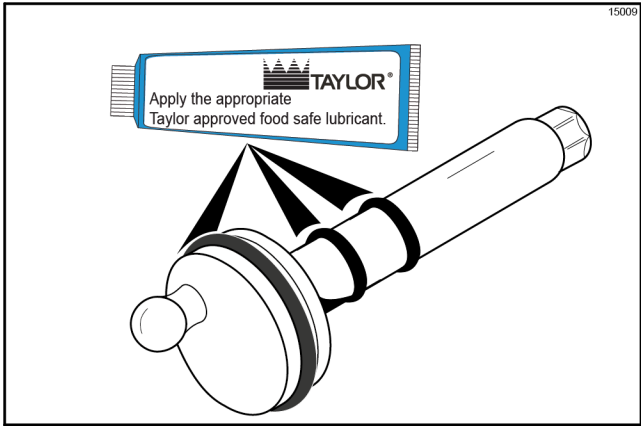

Figure 6-40
- 13. Slide the large black O-ring and the two smaller black O-rings into the grooves on the driveshaft. Thoroughly lubricate the O-rings and shaft. **Do not** lubricate the hex end of the shaft. (See Figure 6-40.)